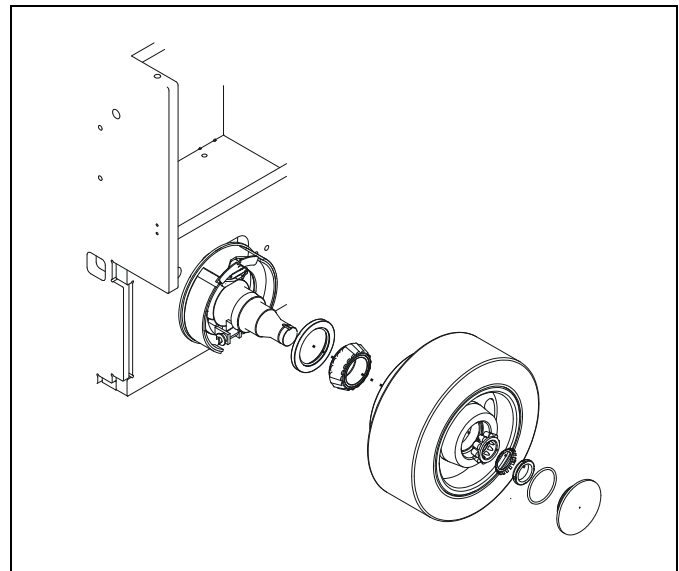

Figure 2-3 Rear Wheel Bearing Assembly
4. Remove hub cap, 1-14" hex slot nut, lock washer, and outer bearing. (See Figure 2-3)
1. If bearing cups are replaced, clean hub and press new bearing cups into hub. (See Figure 2-3).